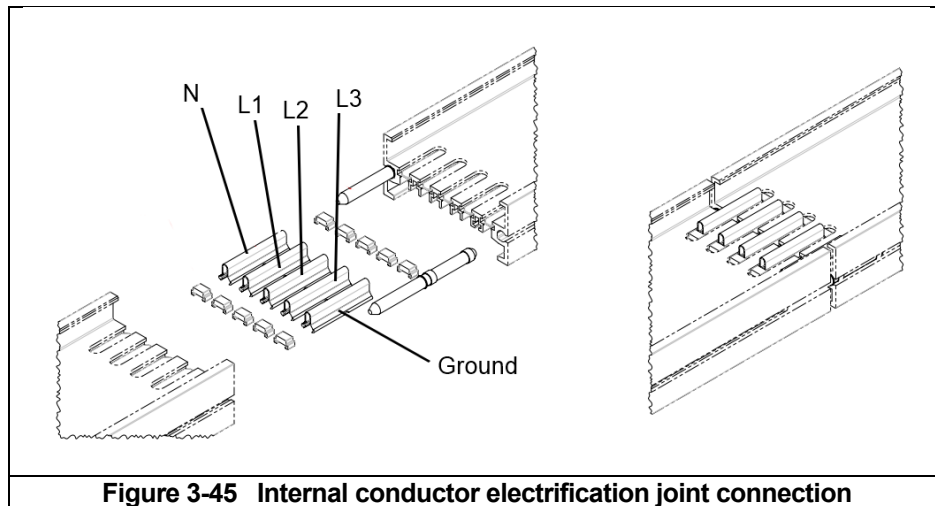

**Figure 3-44 Profile connection for aluminum profile**
**For Aluminum profile tracks, refer to Figure 3-44,**